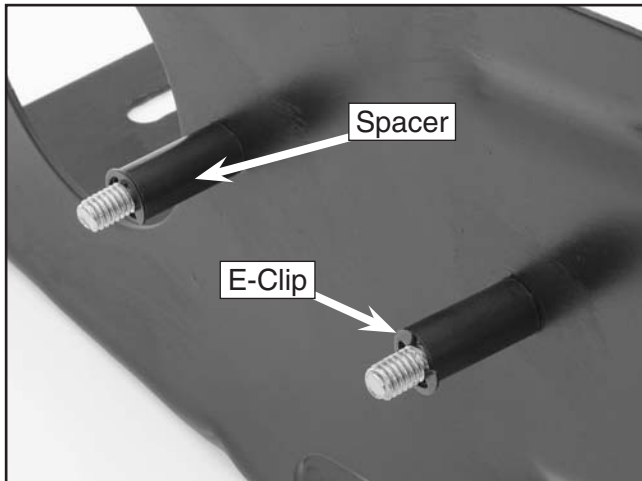

Figure 16. V-Belt bolts, spacers, and E-clips.
7. Slide the carriage bolts through the holes in the V-belt plate and place spacers over the carriage bolts as shown in **Figure 16**. Secure the spacers with the E-clips.